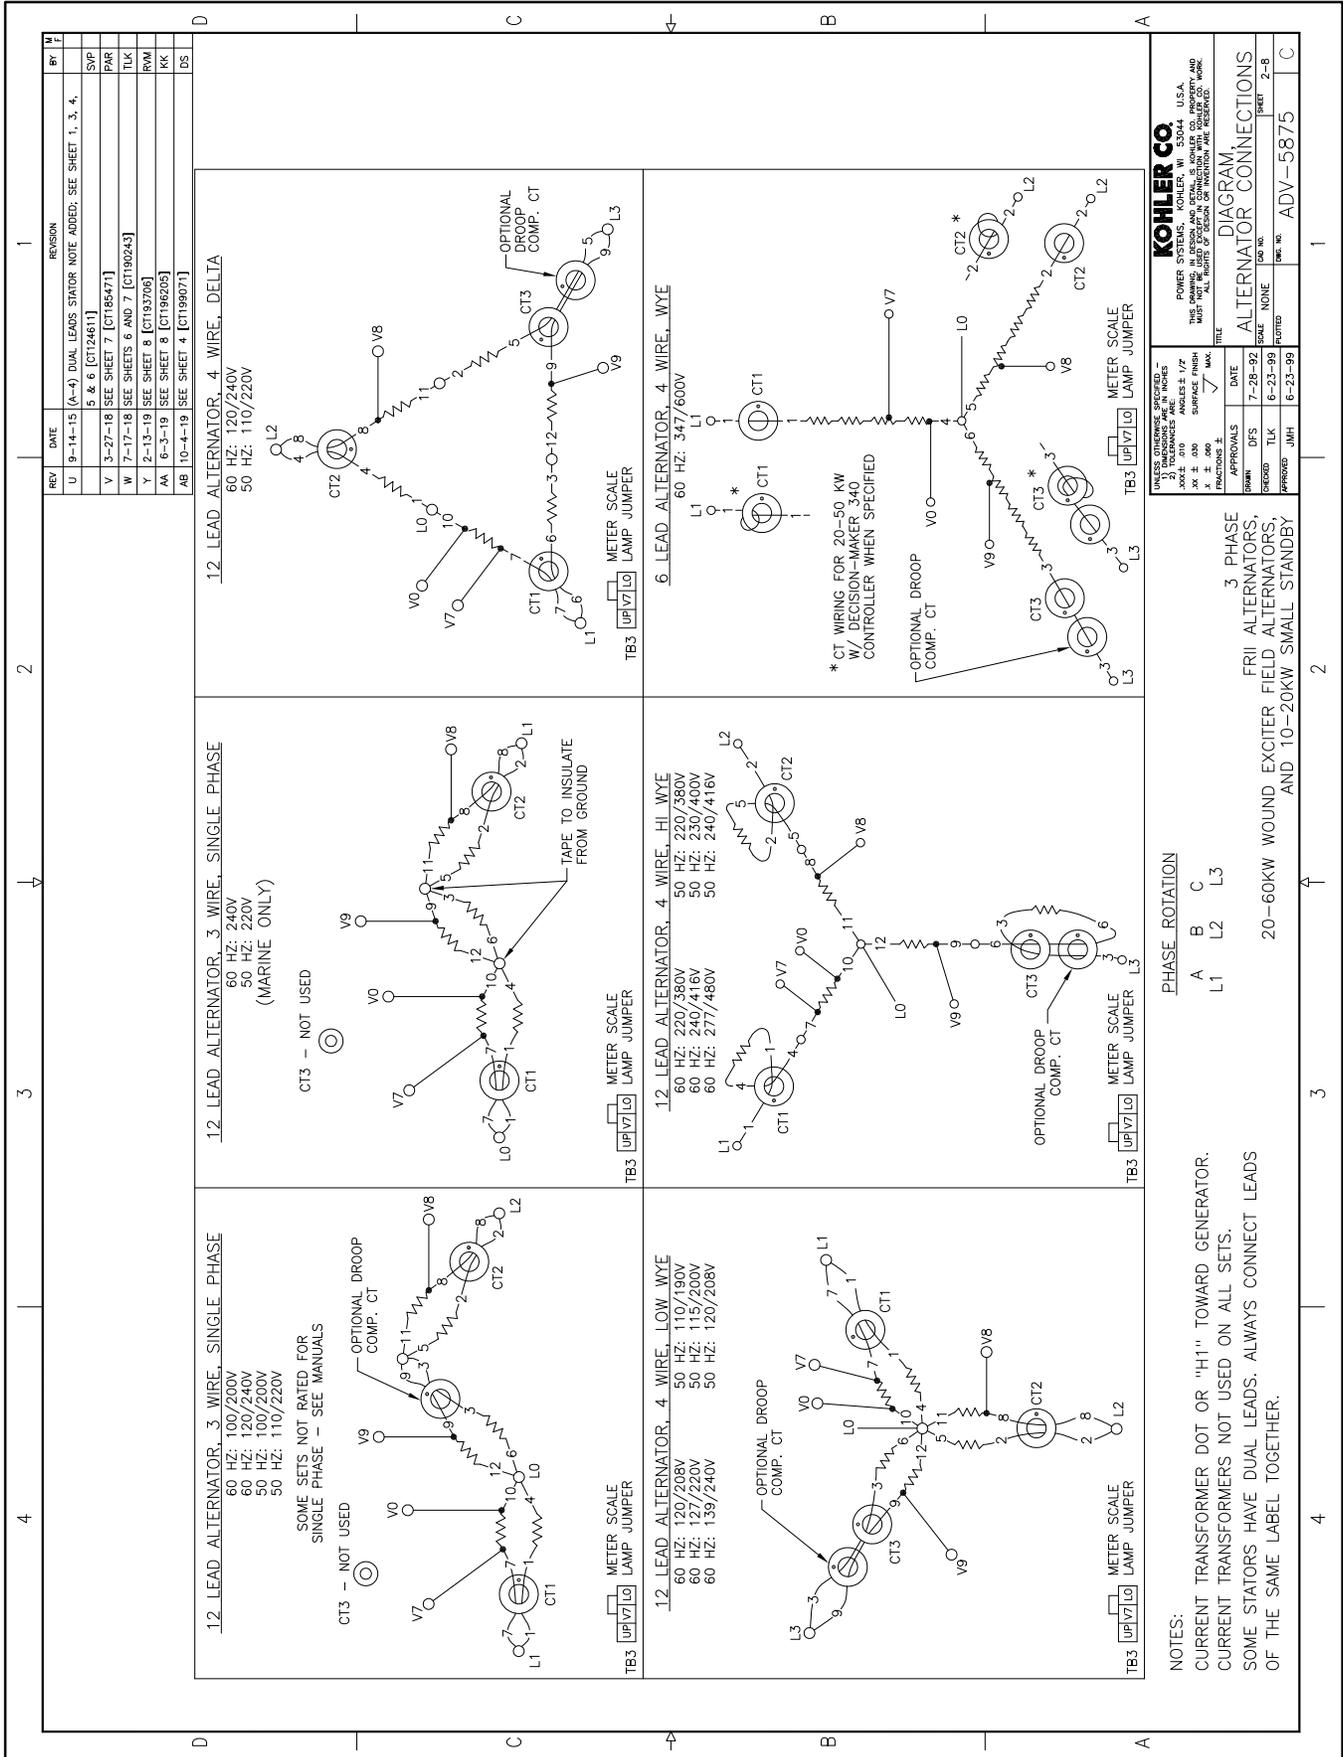
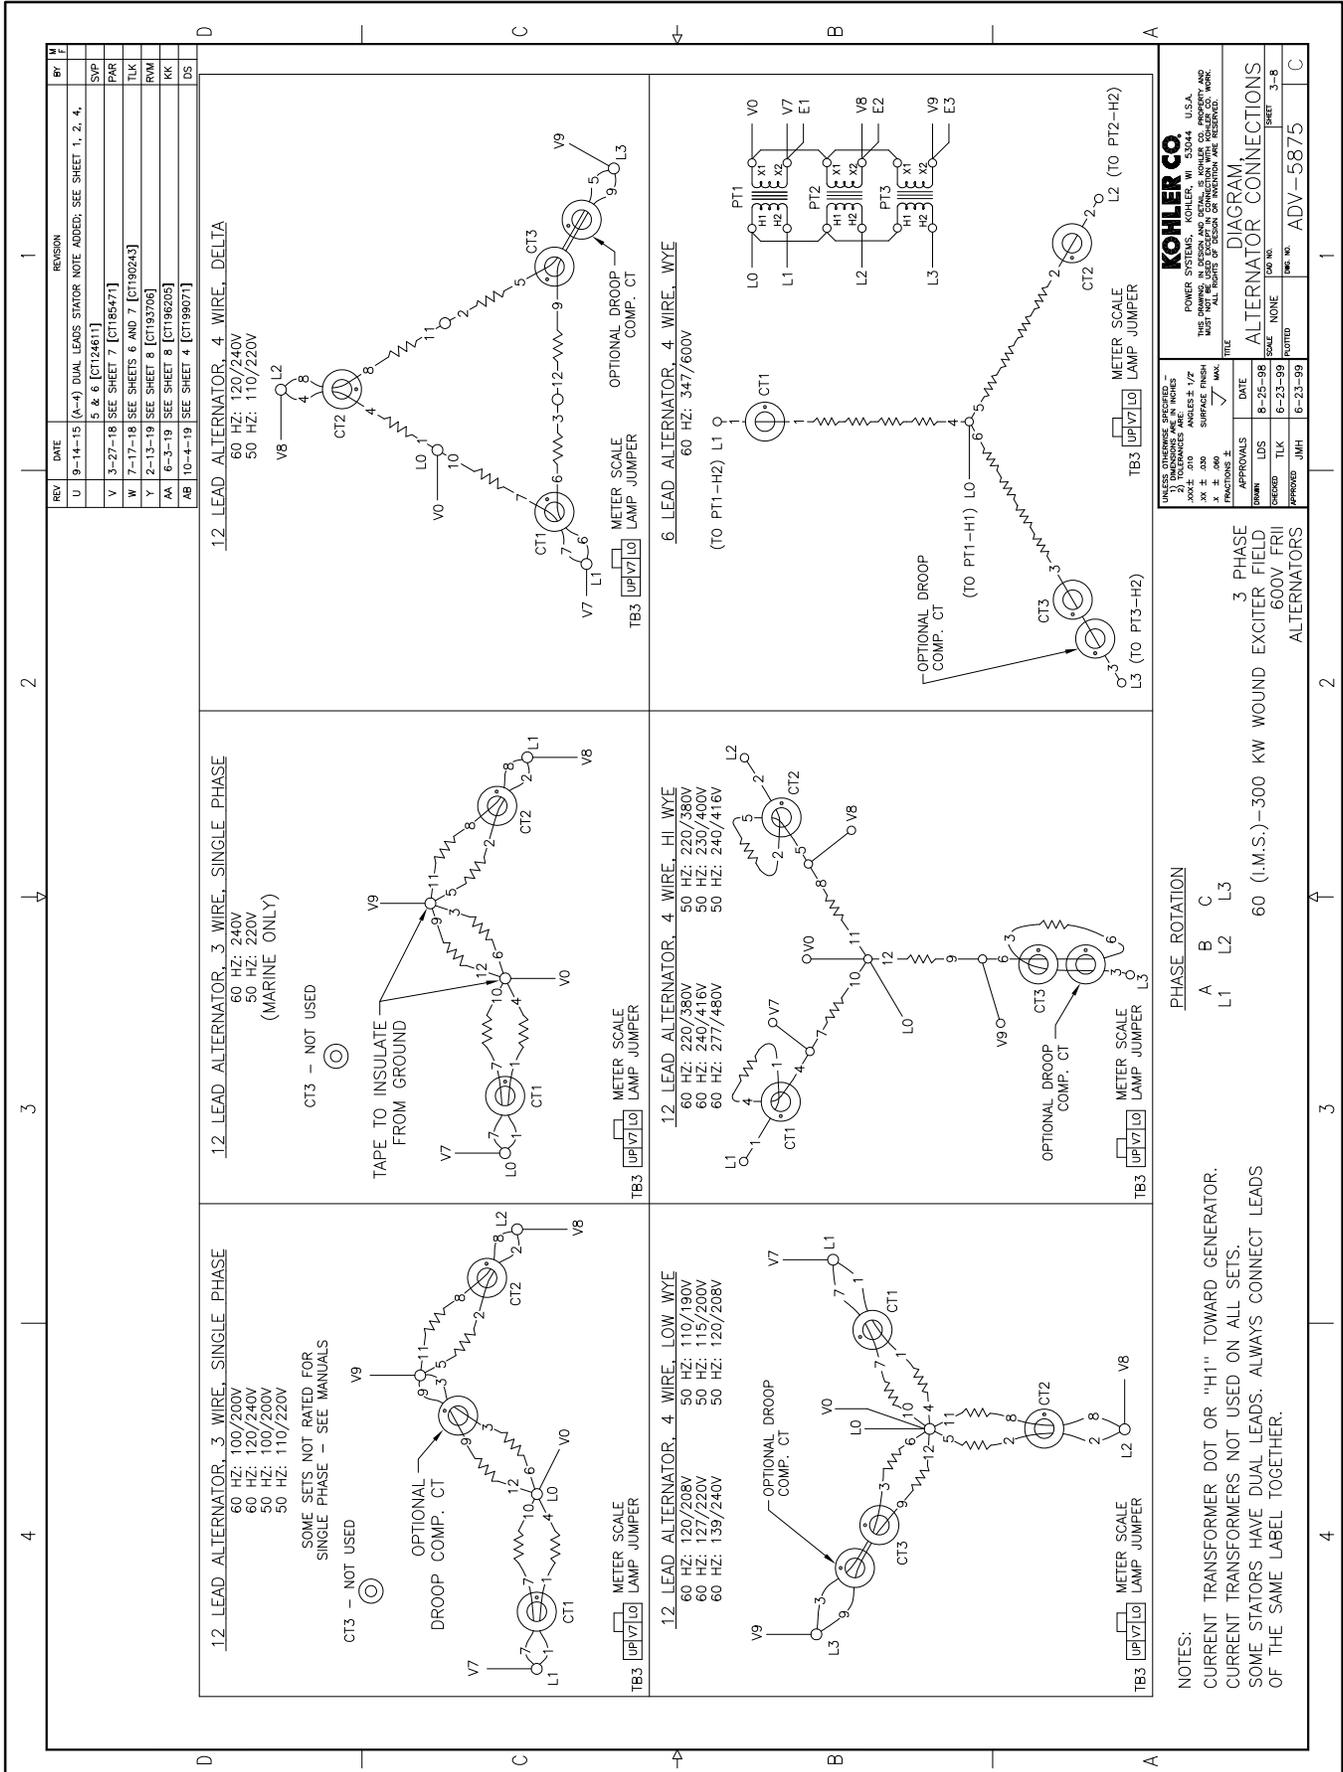
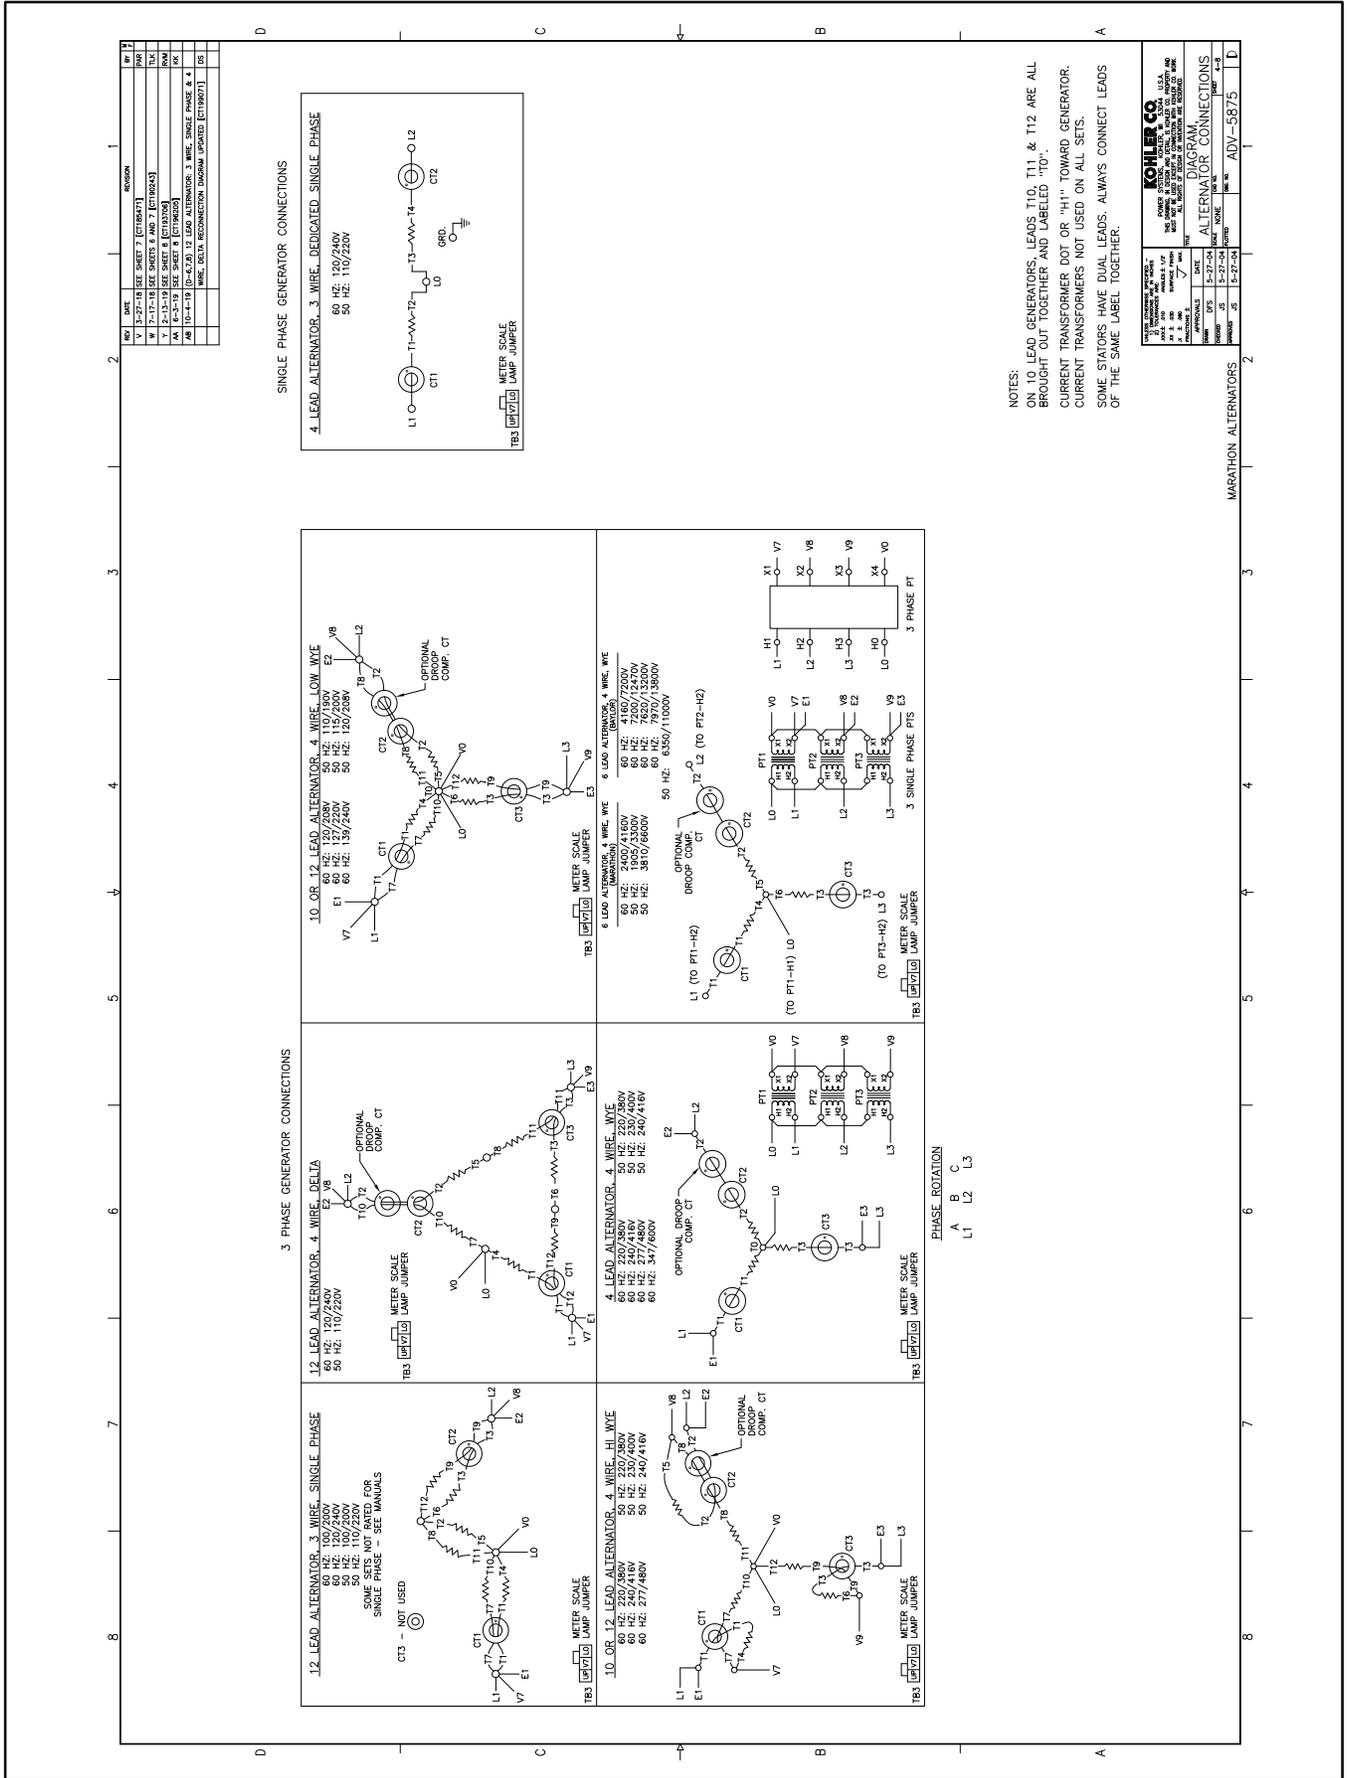

Figure 55 20- 300 kW Permanent Magnet Alternators, ADV-5875AB-2
Figure 56 60 IMS- 300 kW Wound Exciter Field & 20- 300 kW, 600 V Perm. Magnet Alternators, ADV-5875AB-3
Figure 57 300 kW and Larger Pilot-Excited, Permanent Magnet 4M/5M/7M/10M Alternators, ADV-5875AB-4
3. Use Figure 54, Figure 55, Figure 56, or Figure 57 to determine the generator set voltage configuration. Note the original voltage and reconnect as needed. Route leads through current transformers (CTs) and connect them according to the diagram for the desired phase and voltage.